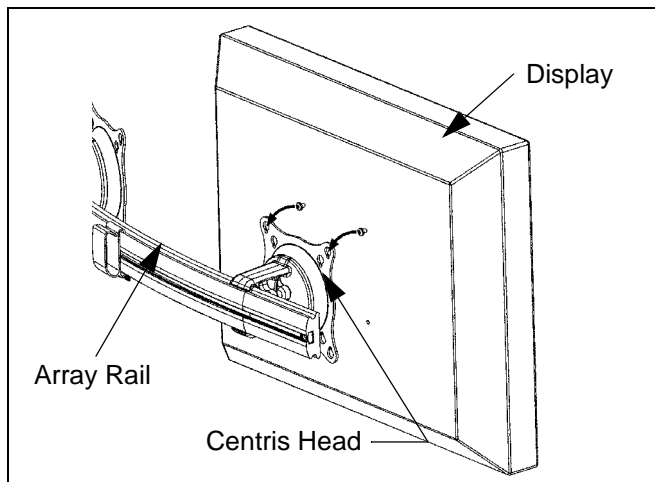
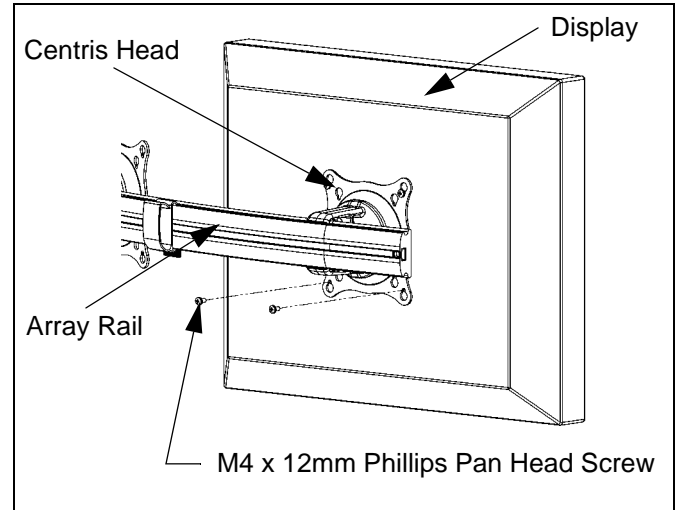

Figure 5: Hang Display
Figure 6: Secure Display to Centris Bracket
2. Hang display on Centris head. (See Figure 5)
3. Install bottom two M4 x 12mm Phillips pan head screws (30) through Centris head mounting holes and into lower mounting holes in display back.
4. Tighten four M4 x 12mm Phillips pan head screws (30). (See Figure 6)